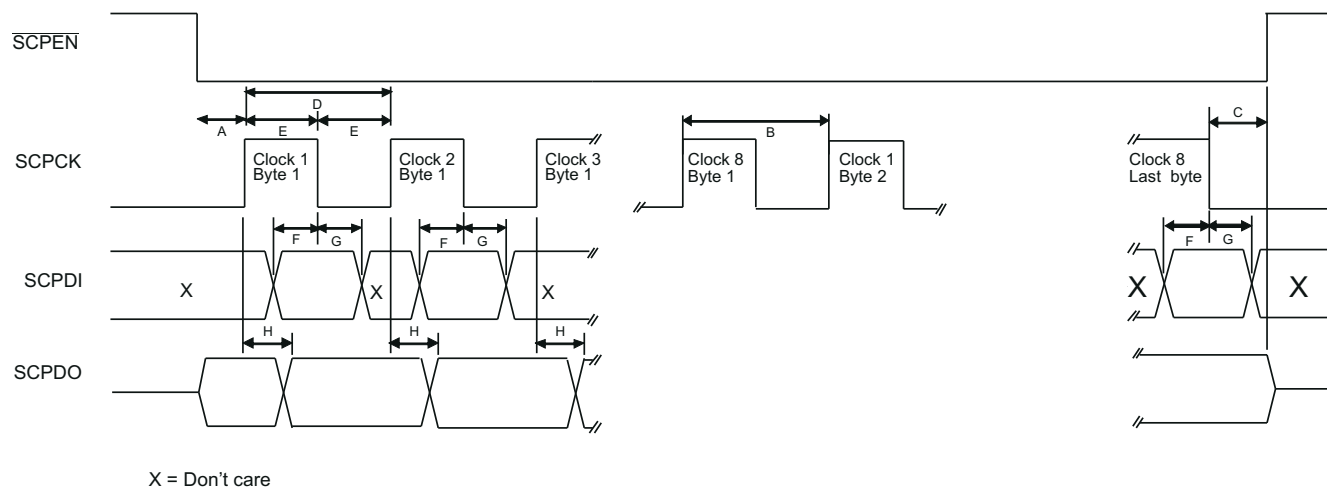

图 7-1. Serial Interface Timing
(1) See Figure 7-1
(2) There is no minimum speed for the serial port. It can be written to statically for diagnostic purposes.